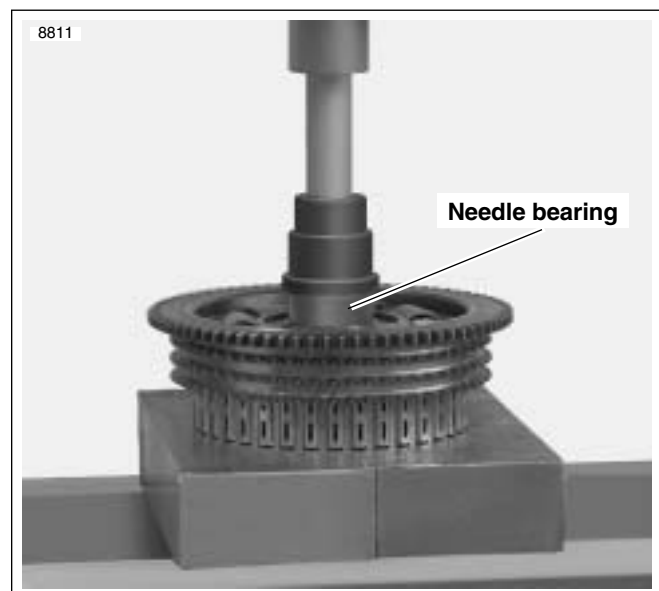

Figure 6-32. Installing Clutch Shell Needle Bearing Clutch Shell Bearing Remover/Installer B-45926
5. See Figure 6-32. Place clutch shell on support blocks with sprocket side facing up.